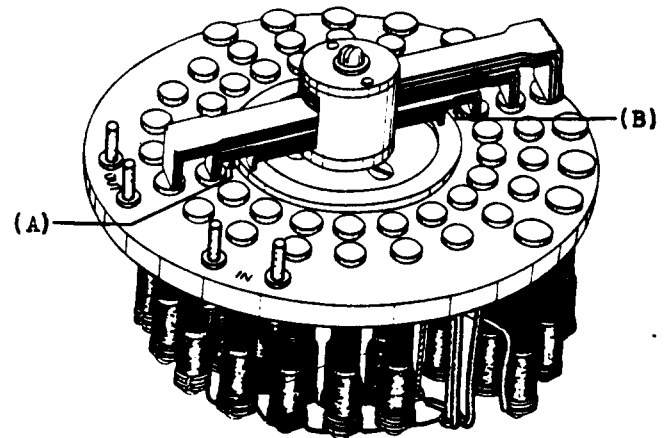

Fig. 5 - Contact Spring End
(1) Measure the contact spring pressure by looping a piece of No. 12 linen thread or No. 22 gauge bare tinned copper wire under the spring to be checked as close as possible to the bend at the end of the spring. This loop shall be at least 5" in length when taut. To prevent the loop from coming in contact with the edges of the springs above springs (A) and (B) (Fig. 5) the loop should be spread by